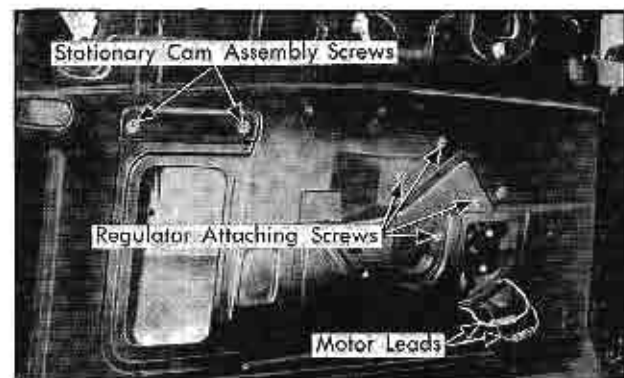

Fig. 3-39 Door Window Regulator Removal - Coupes
3. On bodies equipped with electrically powered window regulators, disconnect motor leads indicated in Fig. 3-39.
5. Remove two screws securing stationary cam to door inner panel and remove cam. Fig. 3-39.
7. Remove regulator to door inner panel attaching screws. Fig. 3-39.